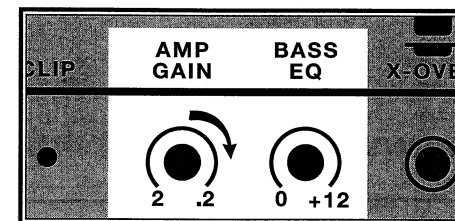

Figure 10 - Gain Control
3. Turn the Gain setting adjustment on the M100 clock-wise (i.e. to the right) until you hear the amplifier distort. The M100 clips very softly so this can sometimes be a difficult adjustment. Please listen carefully! (see Figure 10)